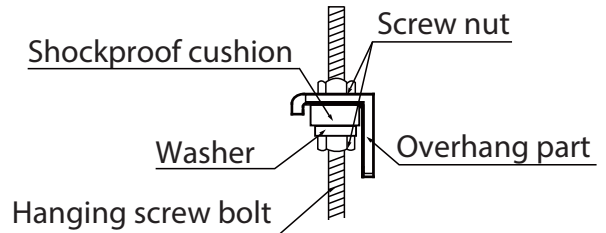

Fig. 18 — Secure the Unit
5. Secure the unit in position with lock nuts and washers on both sides of the mounting bracket. Ensure the threaded rod does not extend more than 2 in. below the mounting brackets (see Fig. 18).